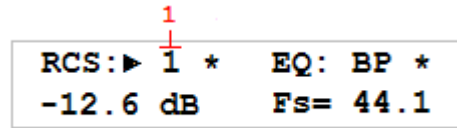

Fig. 3.6 Tact-2150 XDM main screen with correction preset 1.
In the main screen select correction preset 1. Preset 1 should be displayed in field (1) Fig. 3.6 with a ‘\*’ next to it.